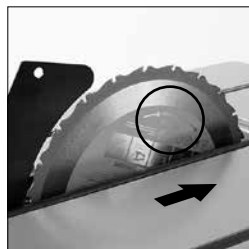

Fig. 37
- Fit the new blade. Ensure that the teeth are facing to the front of the saw (**Fig. 37**), and that the rotation arrow on the blade is in conformism with the rotation arrow on the motor housing.